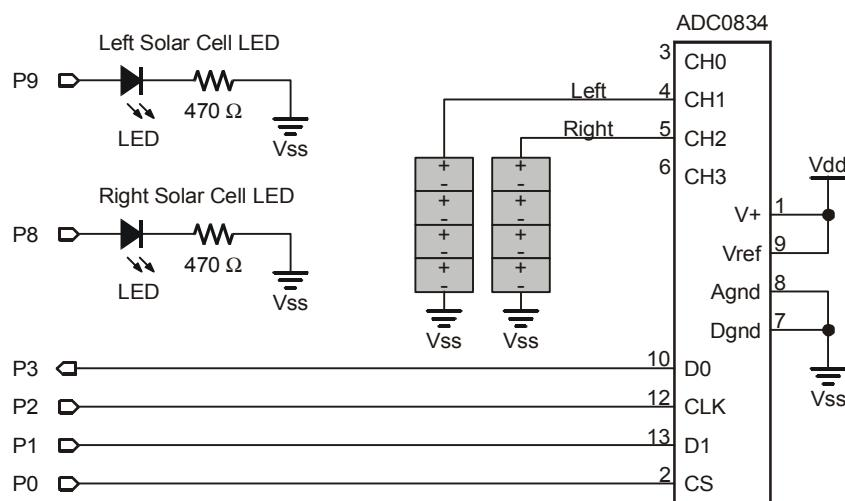
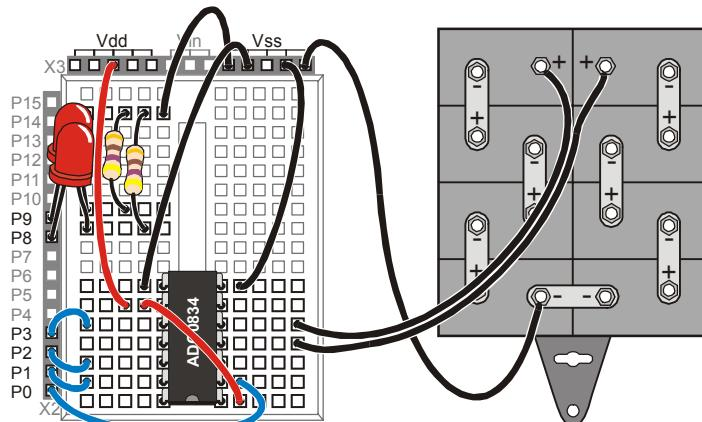

Figure 3-3: Dueling Solar Cells Schematic
Figure 3-4: Dueling Solar Cells Wiring Diagram
- ✓ Add the two LED-resistor circuits to the breadboard as shown by the schematic in Figure 3-3 and the wiring diagram in Figure 3-4. Make sure not